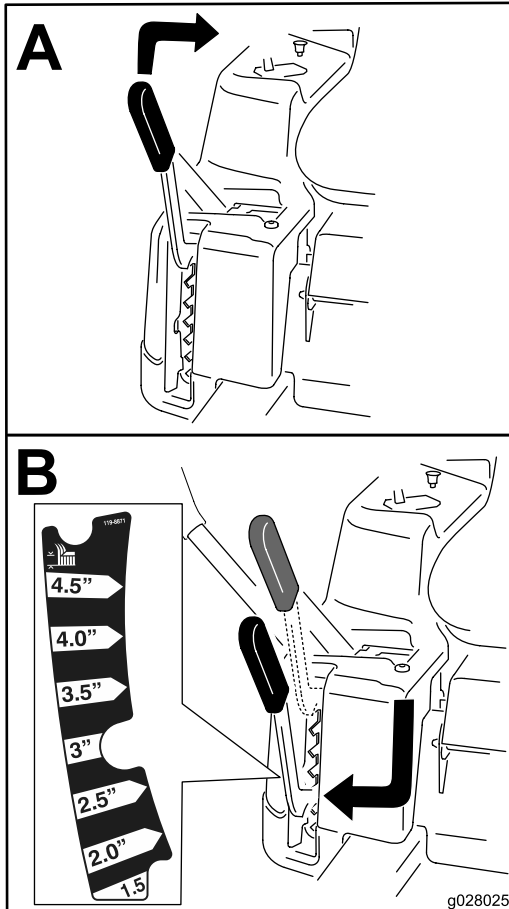

Figure 15
**Note:** The transport position is the highest height-of-cut position at 115 mm (4-1/2 inches) as shown in Figure 15.